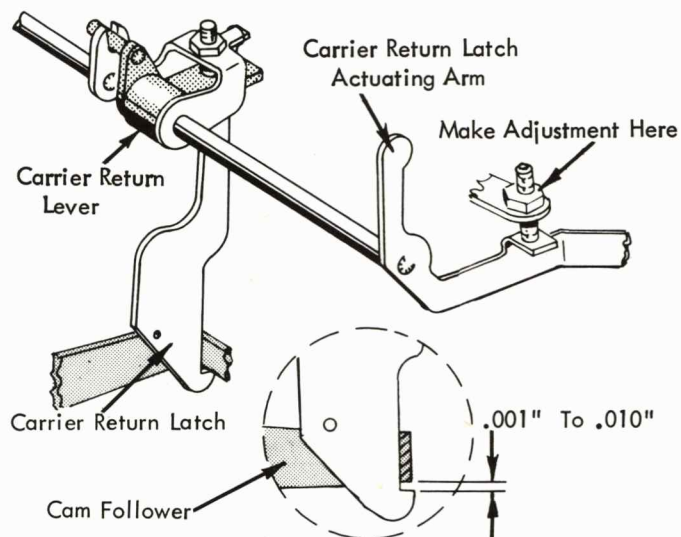

FIGURE 142. Carrier Return Latch Height
- c. Carrier Return Latch Actuating Arm Adjusting Screw (latch height) - With the carrier return cam latched in the rest position, adjust the screw so that the carrier return latch will pass under the cam follower by .001" to .010" (Fig. 142).